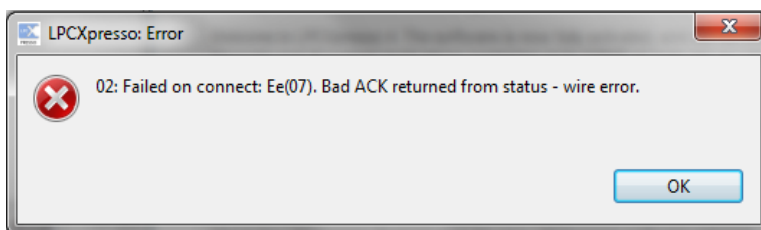

Figure 10 – LPCpresso IDE Program Failing to Flash
- When flashing a new program, the processor can already be in a low-power mode making it impossible to connect to the processor and download the new program. An error message like illustrated in Figure 10 is typical in this case. The solution is to force the processor into ISP/bootload mode before trying to download/flash a new program. Just follow the steps below to accomplish this: